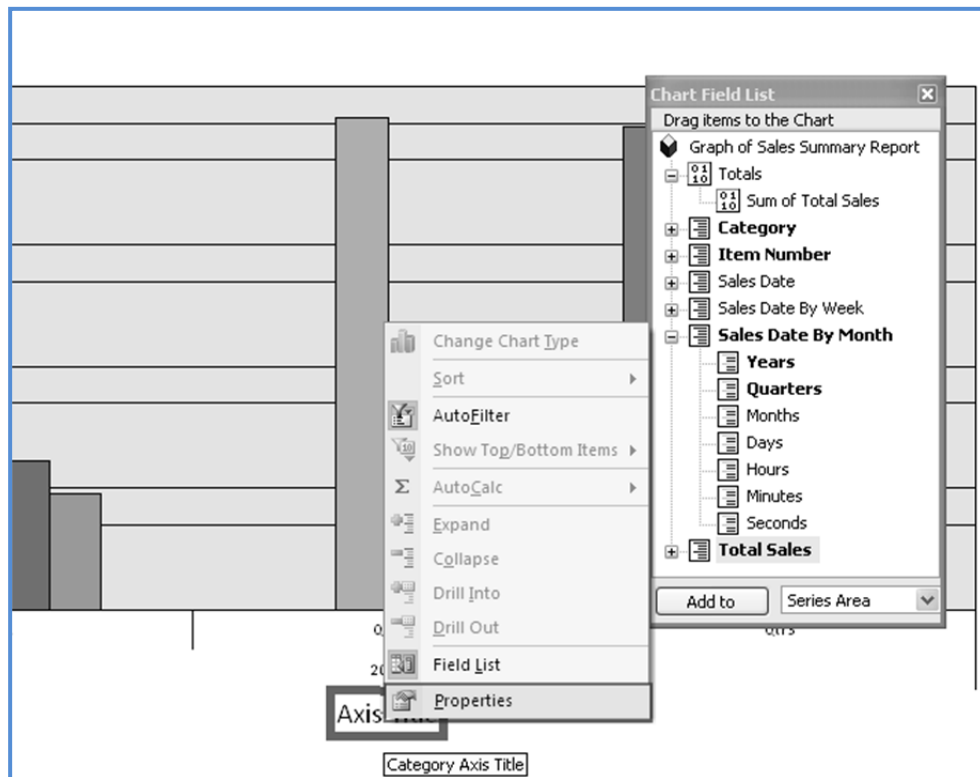

Fig. 1.2.69: Open X-Axis Properties
1. Right-click the **Axis Title** on X-Axis and select **Properties** from the menu, as shown in Fig. 1.2.69.